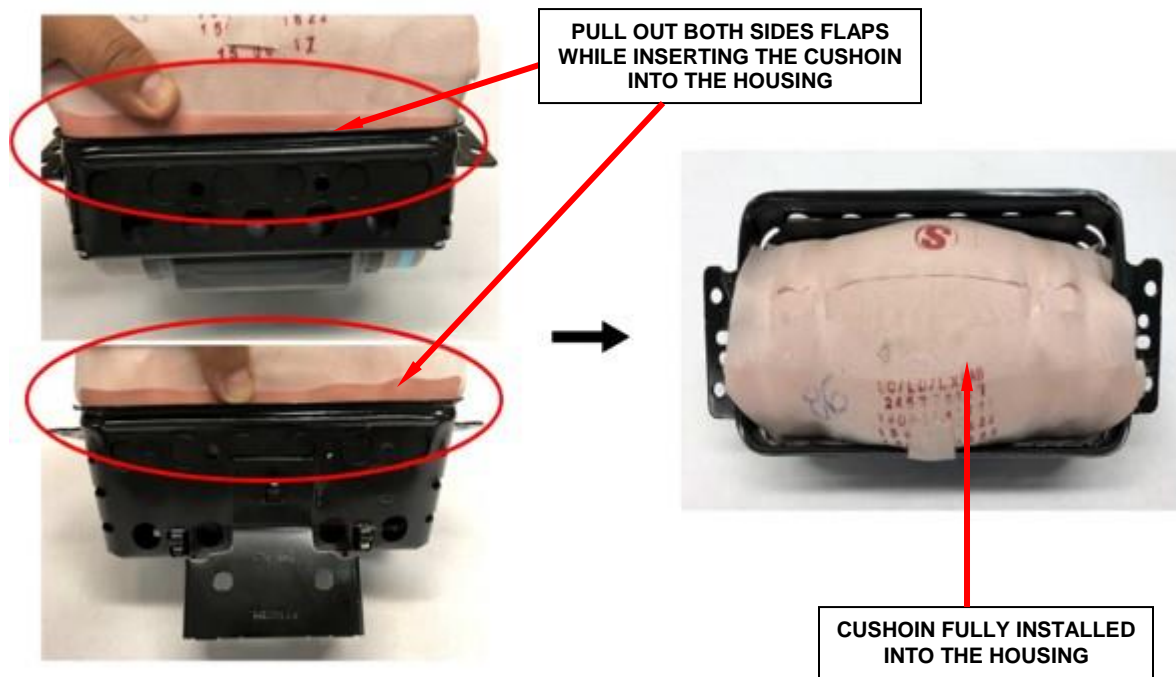

Figure 85 – Side Flaps Must Be Held Out
- i. Insert the cushion, pulling out both side flaps (Figure 85).